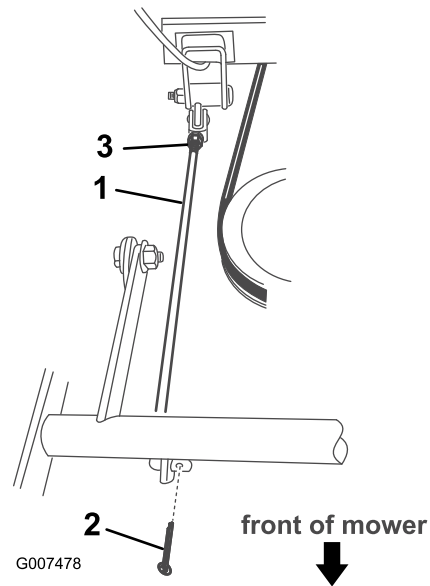

Figure 36
7. Remove the cotter pin at the front of the adjusting rod (Figure 36).
8. Loosen the nut at the rear of the adjusting rod (Figure 36).